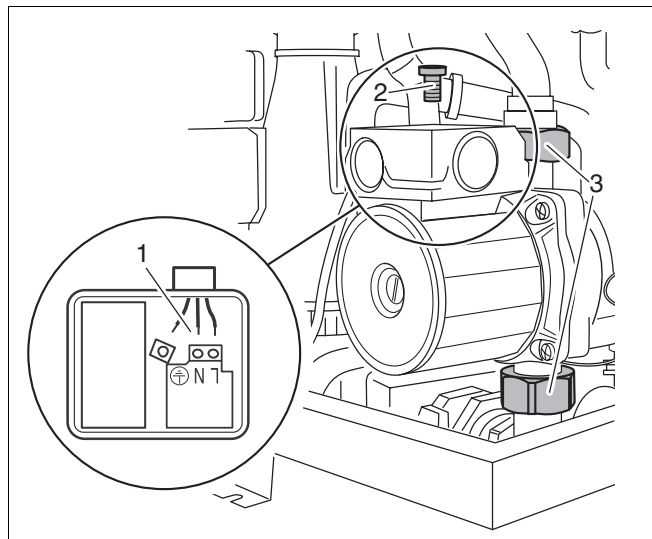

Fig. 66 600 - 11S / 19S / 24S / 24C:
- Loosen the screw on the terminal box (fig. 66, item 2) of the pump and open the terminal box. Note the wiring layout, and loosen the cables (fig. 66, item 1).
- Loosen the screw-in connections on the pump (fig. 66, item 3) and remove the pump.